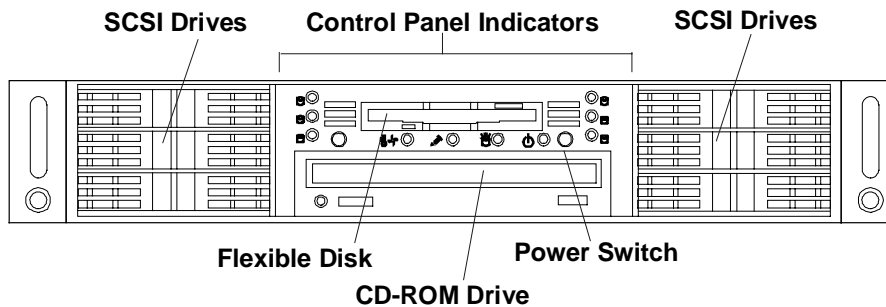

Figure 1-1. Front Panel
Before operating the HP Netserver LP 2000r, familiarize yourself with the Netserver's controls, ports, and indicators, as shown in Figures 1-1 through 1-3.
2. Press the Power push-button on the front control panel. See Figure 1-1.